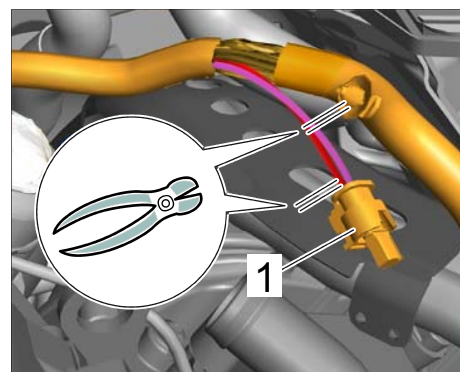

Figure 15
- 5.14 Cut the wires for the connector ⇒ *Figure 15* **-item 1-** at an **offset** position in the marked area.